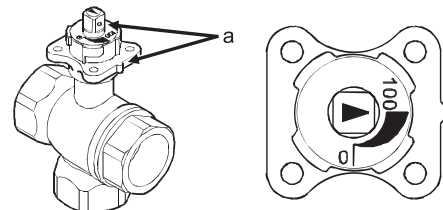

Figure 10. Valve stem
- (3) As shown in Fig. 10. *Valve stem*, check that the valve stem points to the 100 % position. When the valve stem points to the 100 % position, the round hole on the side of the valve stem faces to the tip of the valve flange.